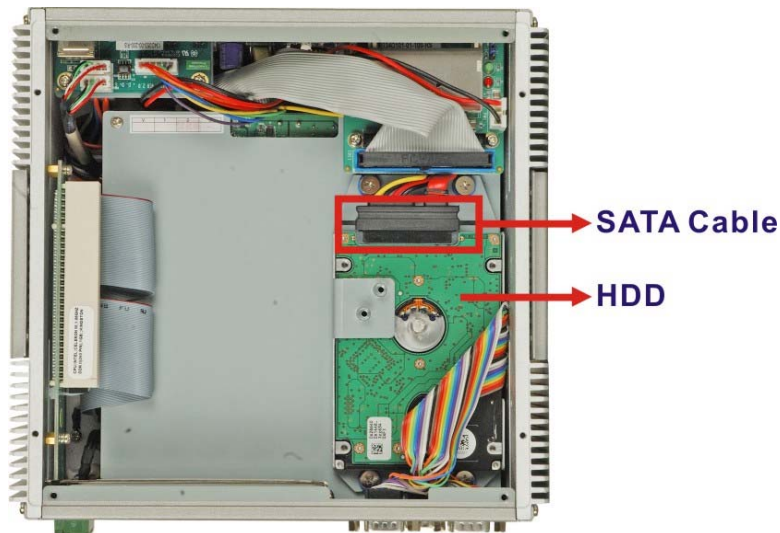

Figure 4-10: HDD Installation
Step 7: Replace the HDD bracket into the ECK-161B and reinsert the four previously removed retention screws (**Figure 4-10**).